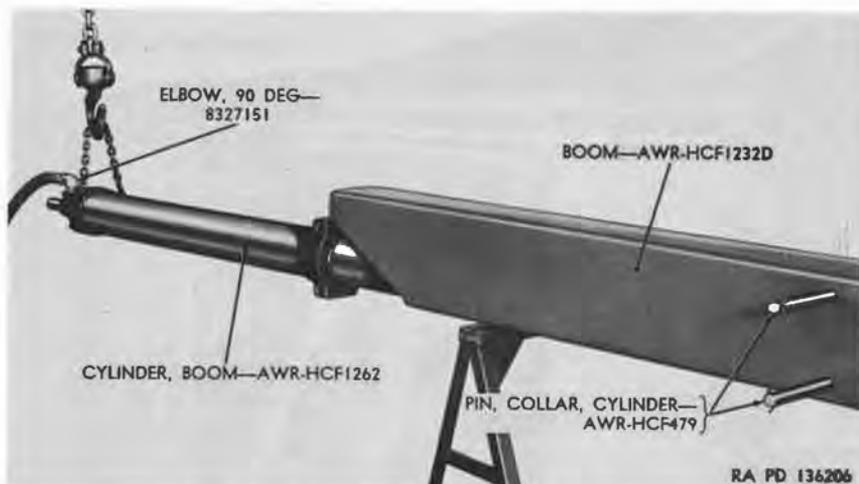

Figure 54. Removing boom cylinder from boom.
*b. Removing Boom Cylinder From Boom (fig. 54).*
- (1) Remove cotter pins from cylinder collar pins and remove pins.
- (2) Attach a chain to support boom cylinder. Remove boom cylinder from boom.